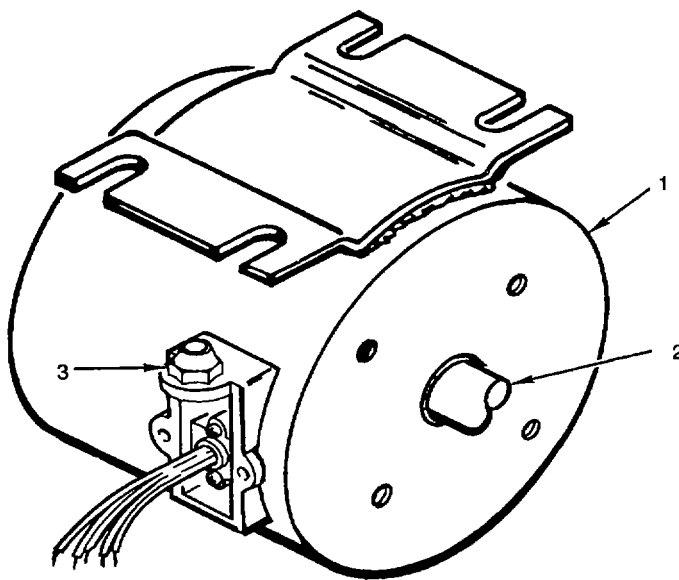

Figure 4-41. Condenser Motor (B3)
- (1) Disconnect air conditioner input power at source, and
- (2) Remove condenser fan section panel (paragraph 4.23)
- a. Check motor (1) for rotational freedom by spinning shaft (2) If there is any stiffness or binding, contact Direct Support Maintenance (see fig. 4-41)
- c. Remove motor (1).